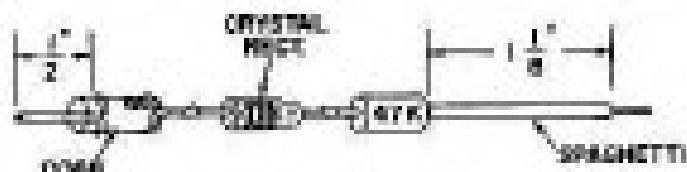

FIGURE 16
- () 147. Connect the other end of the crystal rectifier to a 47K OHM resistor (yellow-violet-orange). Connect as close together as possible (Solder). Leave the longer lead of the resistor long, and slide a 1-1/8" length of spaghetti over it. See Figure 16.